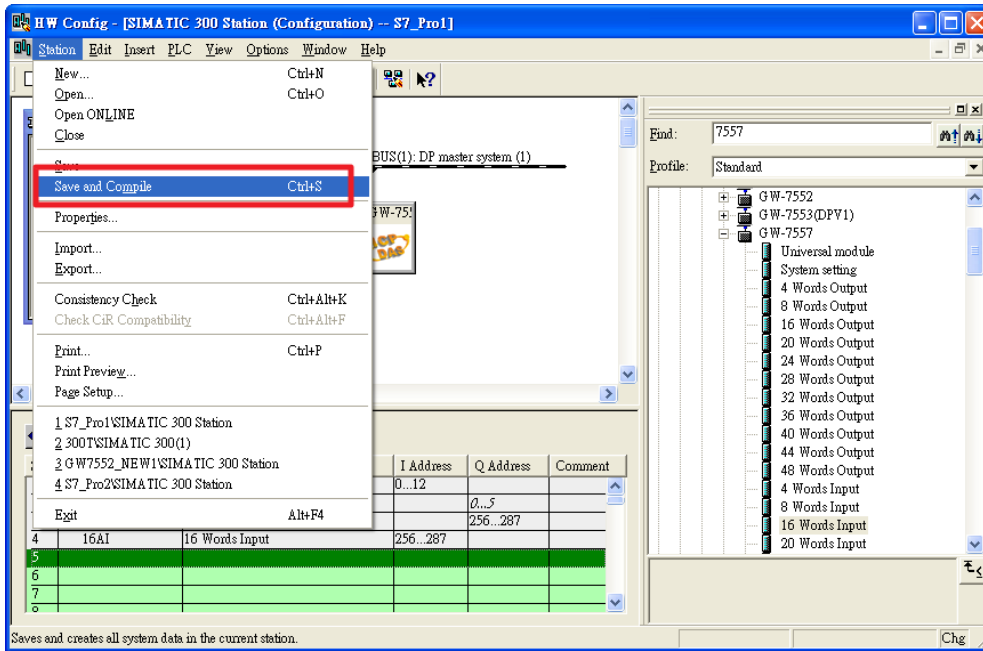
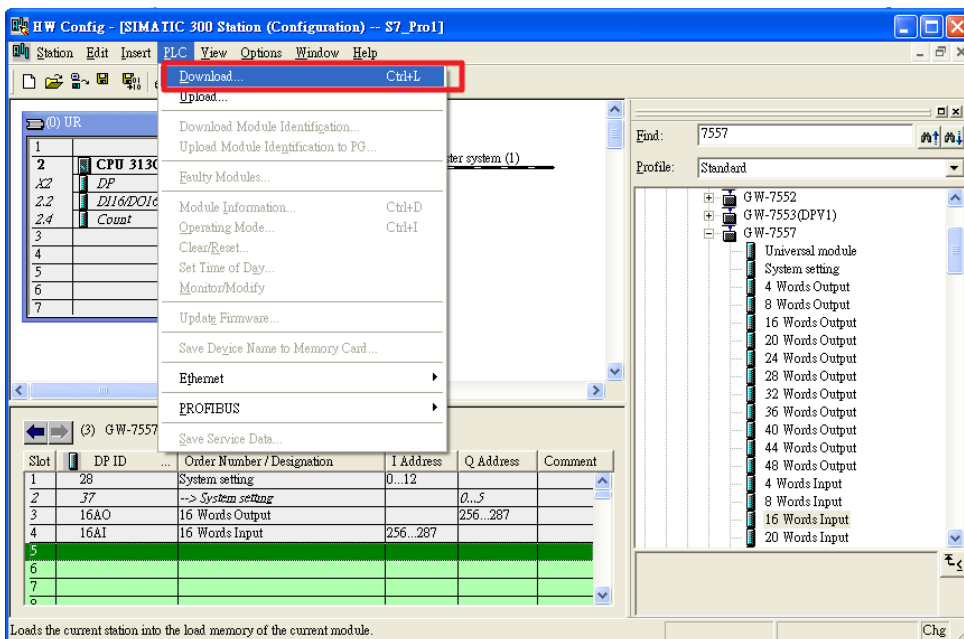

Figure 26 Click <Save and Compile>
Figure 27 Click <Download> to download configuration into PROFIBUS master
Step 5: Click <Save and Compile> then click <Download> to download the configuration into PROFIBUS master, as shown in *Figure 26* and *Figure 27*.